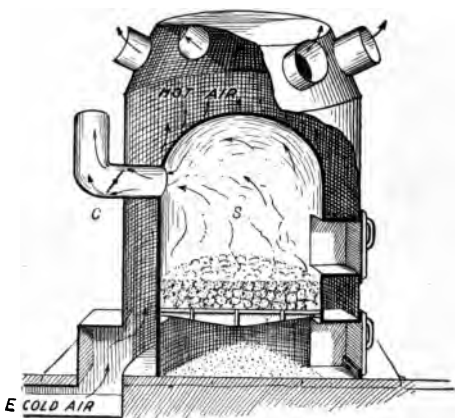

FIG. 13.—A furnace. Pipes conduct hot air to the rooms.
9. Furnaces. Hot Air. The labor involved in the care of numerous stoves is considerable, and hence the advent of a central heating stove, or furnace, was a great saving in strength and fuel. A furnace is a stove arranged as in Figure 13. The stove *S*, like all other stoves, has an inlet for air and an outlet *C* for smoke; but in addition, it has built around it a chamber in which air circulates and is warmed. The air warmed by the stove is forced upward by cold air which enters from outside. For example, cold air